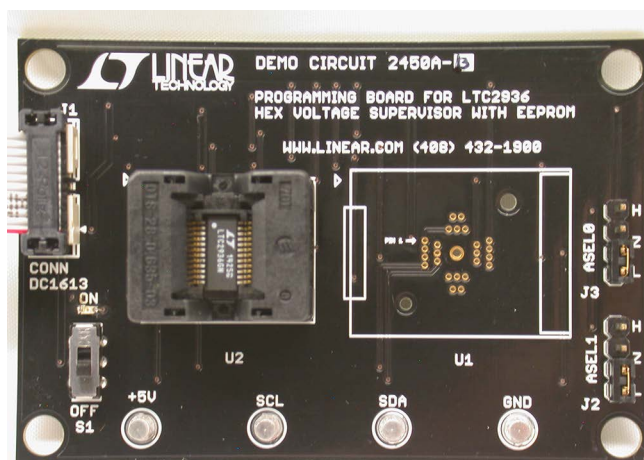

Figure 5. DC2450A-B and IC Installed
3. If using DC2450A-B, open the pinch contacts of the socket by pressing down and holding the top of the spring loaded socket frame. Place the IC inside the socket with pin 1 located in the upper left corner. Slowly release the top of socket frame, allowing contacts to pinch together and grip IC leads. See Figure 5.